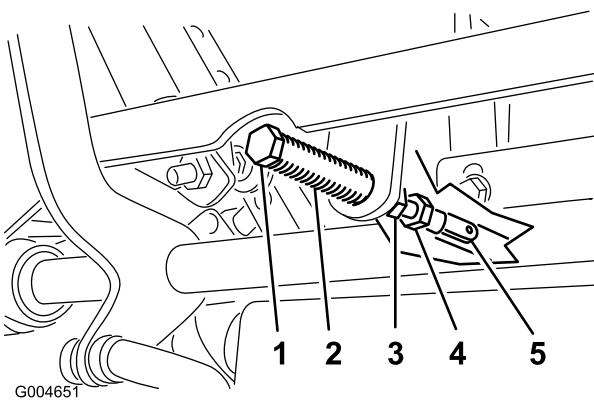

Figure 61
5. Pull the lever back until the clevis pin (on an arm above the pivot shaft) contacts the end of the slot (just beginning to put pressure on the spring) (Figure 61).
7. If adjustment is needed, loosen the nut and jam nut against the yoke (Figure 61).
8. Applying slight rearward pressure on the motion control lever, turn the head of the adjustment bolt in the appropriate direction until the control lever is centered in the neutral lock position (Figure 61).
9. Tighten the nut and jam nut (Figure 61).
- Tighten the jam nuts at the ball joints (Figure 61).